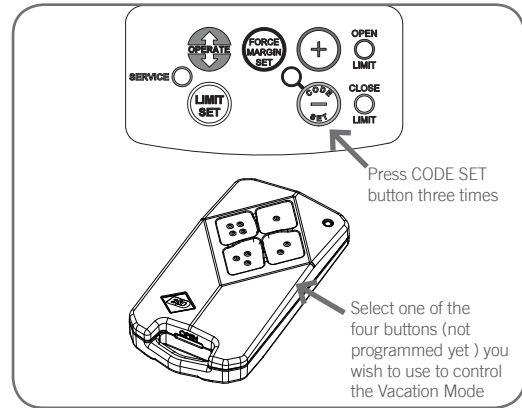

Fig. 30
- Press CODE SET button three times. The CODE SET LED will illuminate and the courtesy light will flash slowly (once every two seconds) to indicate Vacation learning mode is active. **(Fig. 30)**
- Press the same transmitter button again. The CODE SET LED will illuminate for one second and then go out, and the courtesy light will also switch off. This indicates the code has been stored **(Fig. 30)**.